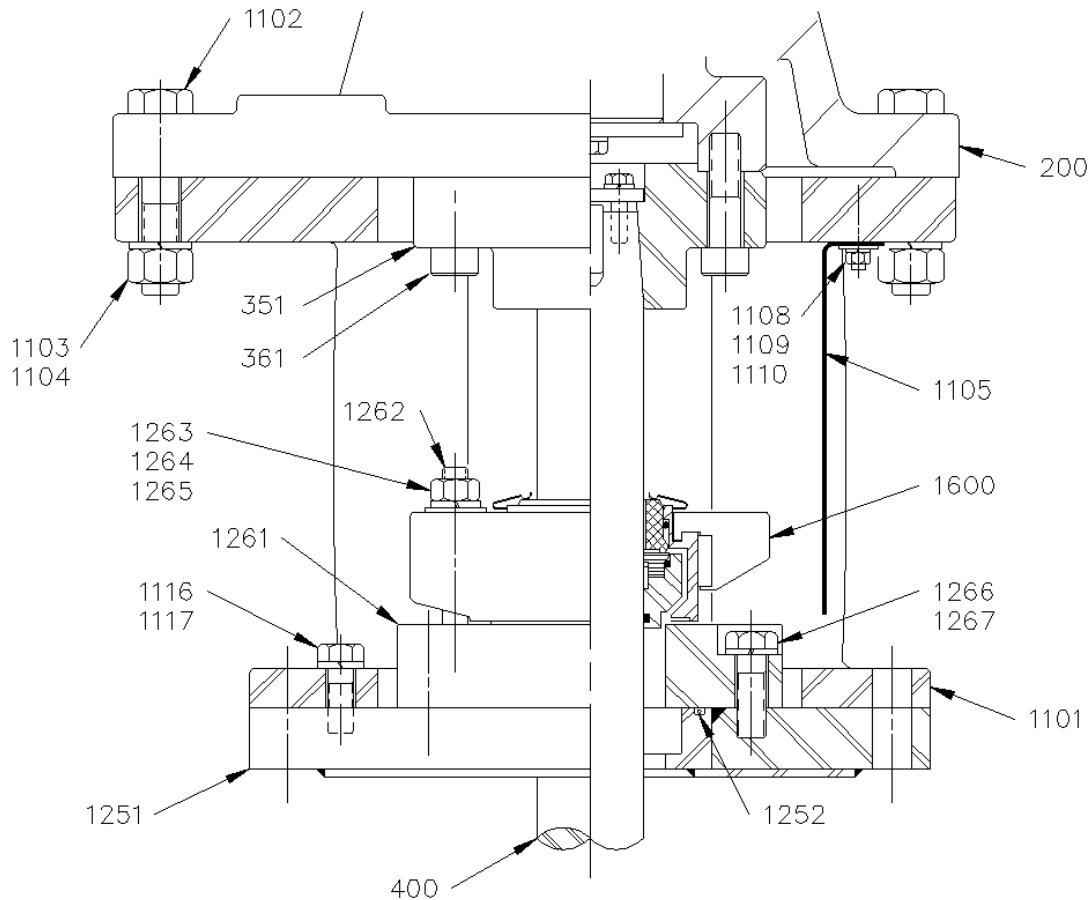

Figure 7. NT Style – Split Seal
5. Center the seal adapter plate [1261] on the shaft. Torque bolts [1266] to the value shown in the APPENDIX, Page 89. Refer to Figure 7, page 24.